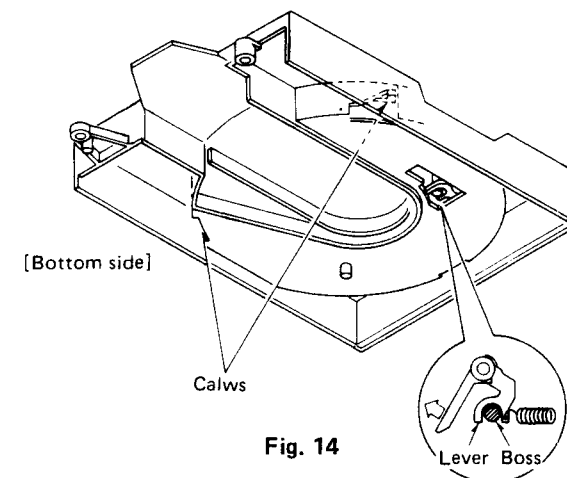

Fig. 14
- * It can be easily set by pushing the lever in the direction of the arrow. [Fig. 14]